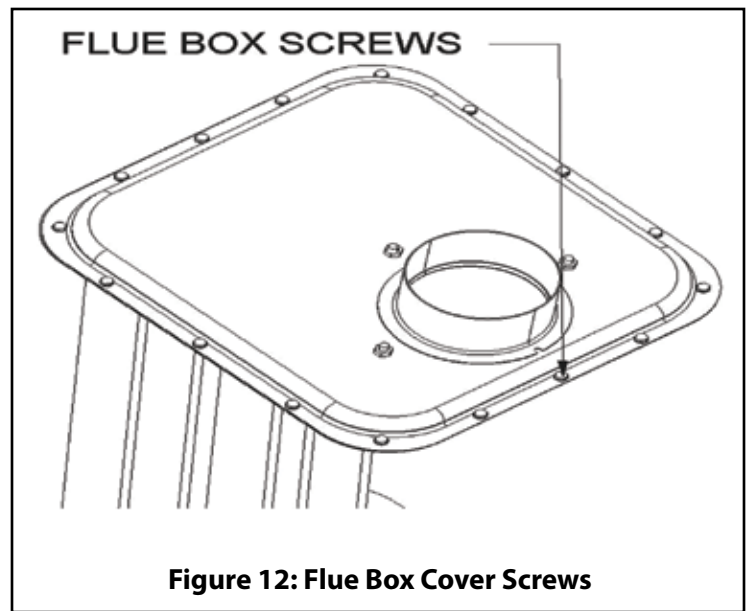

Figure 12: Flue Box Cover Screws
10. Remove the 16 screws from the flue box cover. Do not mix these screws with the other screws as these are stainless steel which is required due to the heat and corrosive flue products. Refer to Figure 12 for screw locations.